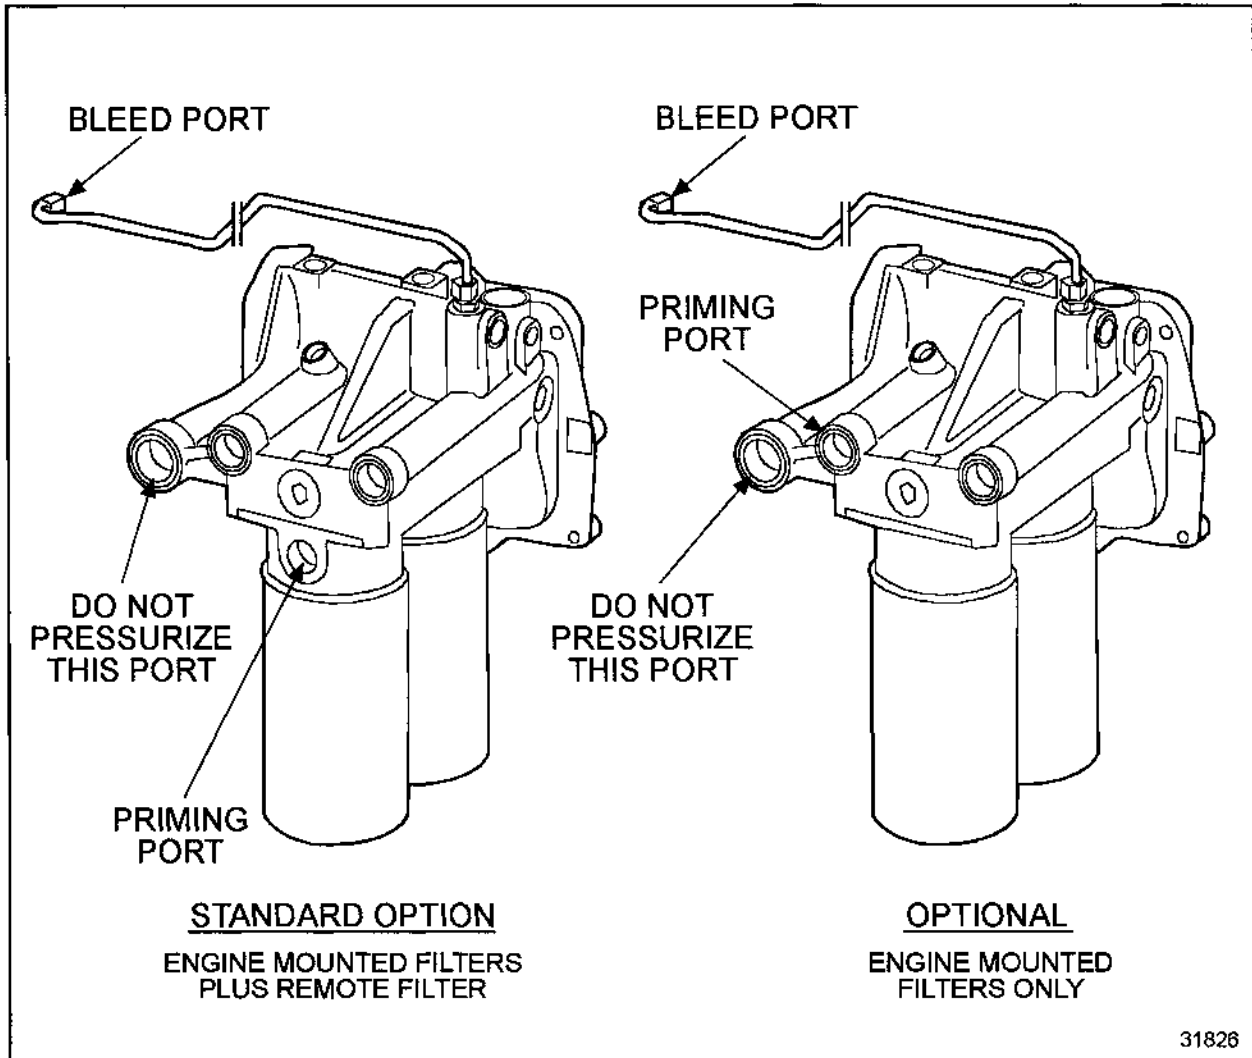

Figure 12 Priming and Bleed Ports for Series 4000 Fuel System
2. Connect the pressurized fuel supply (0.5 to 2.0 bar) to the priming port. See Figure 12.